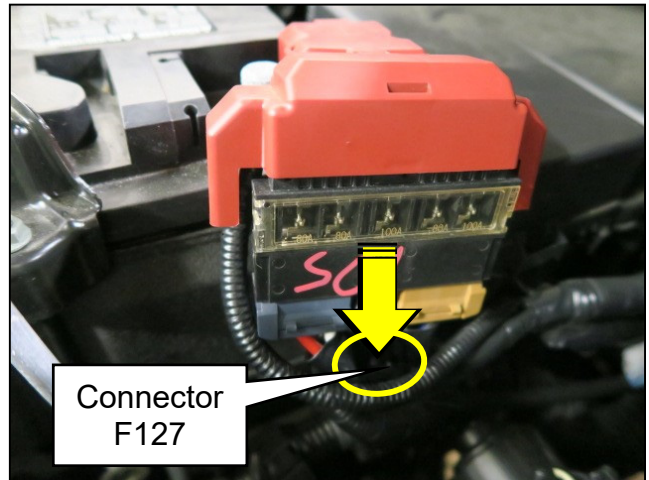

Figure 28
24. Disconnect the transmission power supply connector, F127, from the positive battery fusible link as shown in Figure 28.